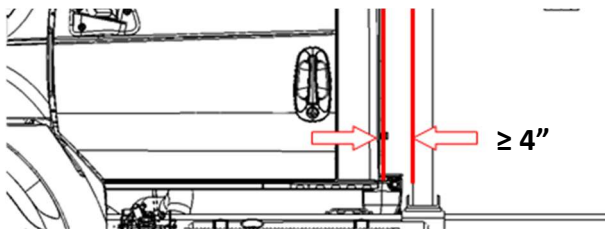

Figure 1.1
**A minimum of 4 inches is required between the cab and hoist system to mount the Stationary LT gantry. (Figure 1.1)**